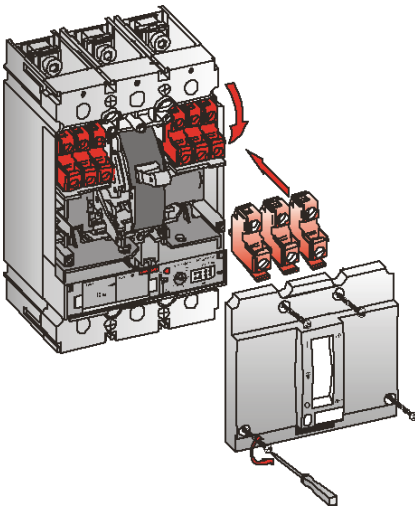

Figure 3. Removing the accessory cover.
1. Loosen, but do not remove, the captive screws holding the accessory cover on the breaker, as shown in Figure 3. Remove the cover.
Replace the breaker cover, as illustrated in Figure 3. Tighten the mounting screws to 11 lb-in (1.2 Nm). Complete the installation by performing an operational check.